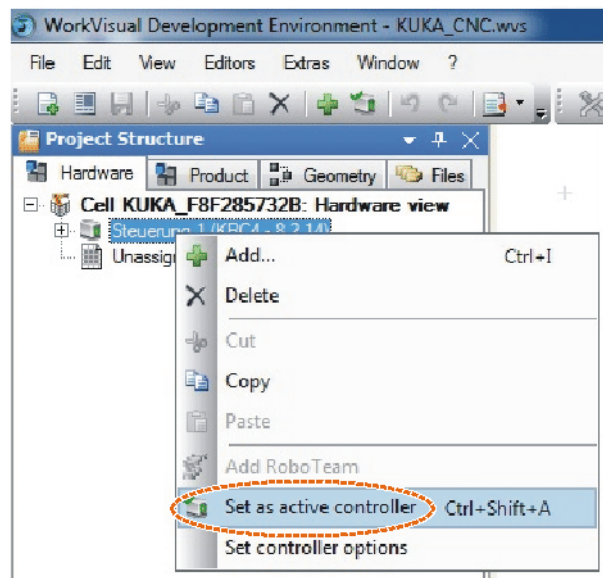

Fig. 6-3: Setting controller of loaded project as “active controller”
3. Set the controller of the loaded project as the “active controller” (>>> Fig. 6-3).